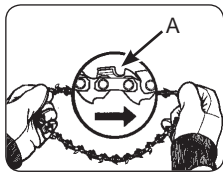

Fig. 4A
1. Spread chain out in a loop with cutting edges (A) pointing clockwise around loop (Fig. 4A).